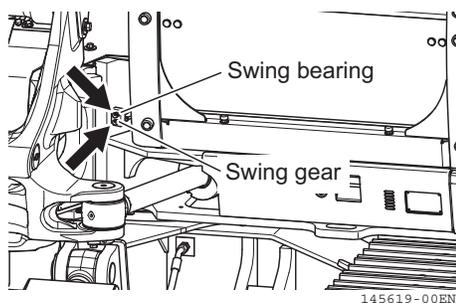

Fig. 8-43
1. Using a grease gun, apply grease through the grease nipples shown in **Fig. 8-43**.